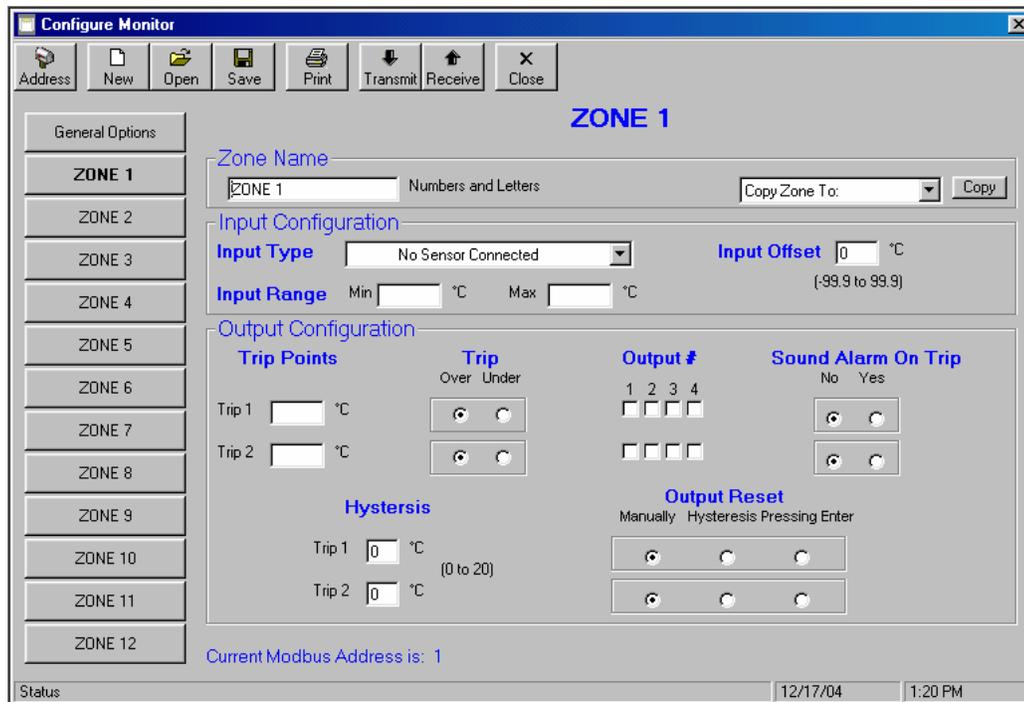

Figure 5
1. Select Functions → Configure Monitor. The window shown in Figure 5 will appear.